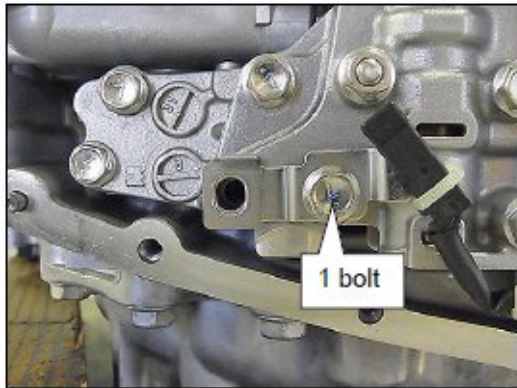

Figure 8
8. Install the CVT fluid temperature sensor bracket to the valve body with one (1) bolt (Figure 8).